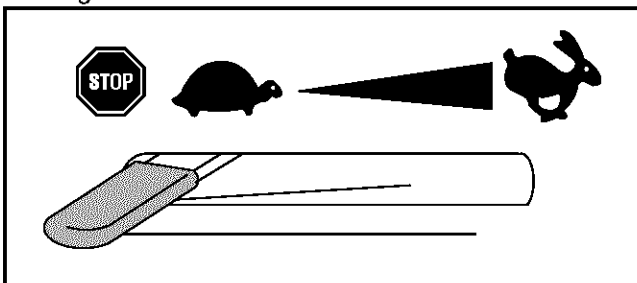

Figure 7
- Move throttle control lever to STOP position. See Figure 7.